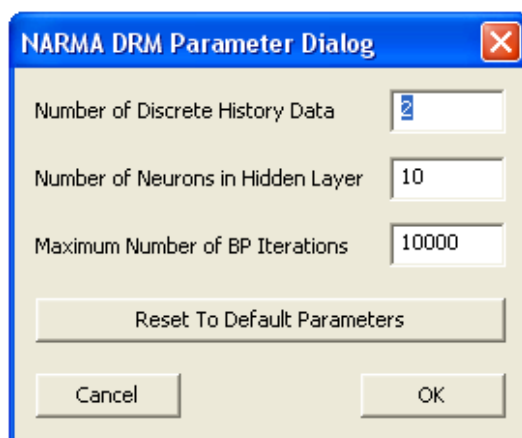

Figure 36: NARMA DRM Parameter Dialog Window
3. Select the **Build → Generate Reduced Model...** command or click  on the toolbar. The “NARMA DRM Parameter Dialog” window as shown in Figure 36 displays.